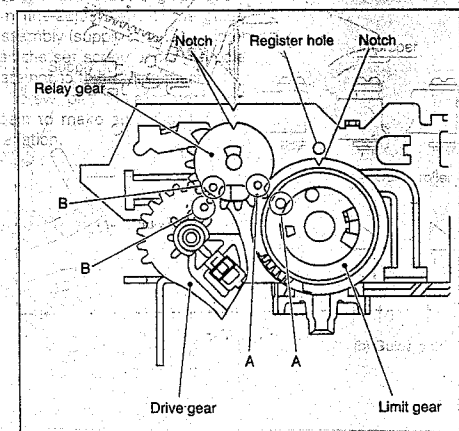

Fig. 2-3-7
- (1) Install the limit gear so that the notch at its outer circumference is in alignment with the register hole of the main deck. (See Fig.2-3-7).
- (2) Install so that the notch at the outer circumference of the relay gear is in alignment with the notch of the main deck, and at the same time, that the hole A of the relay gear is in alignment with hole A of the limit gear and hole B of the relay gear with hole B of the drive gear. (See Fig.2-3-7).